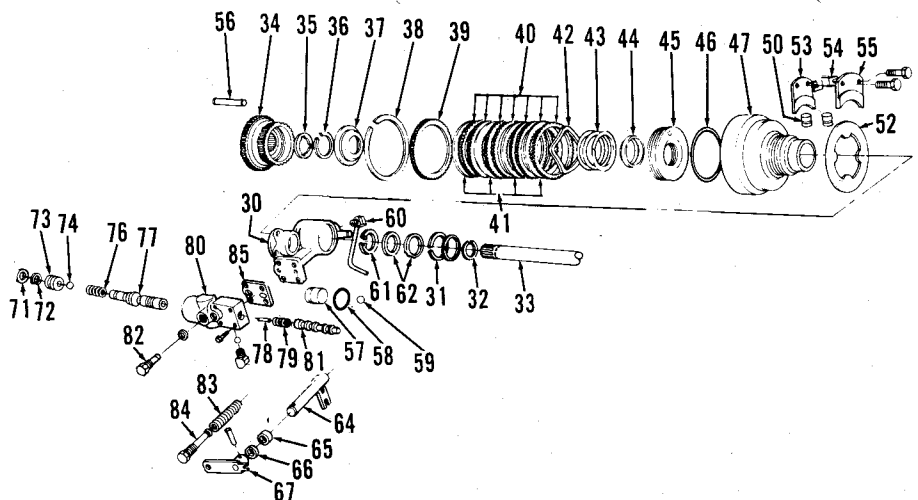
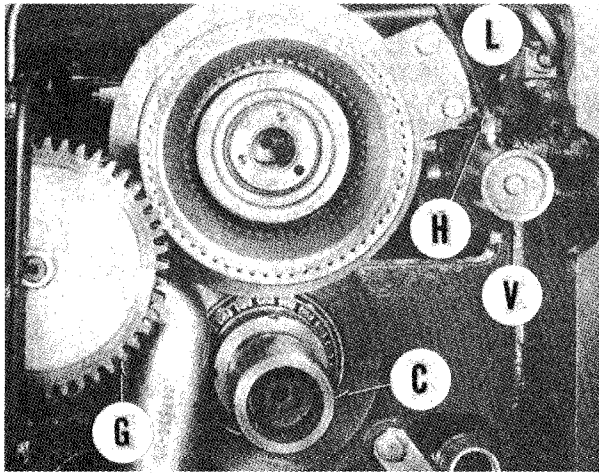
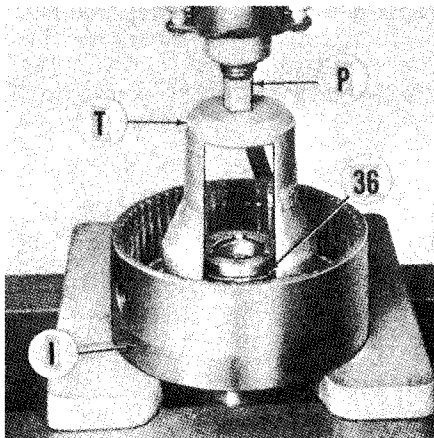
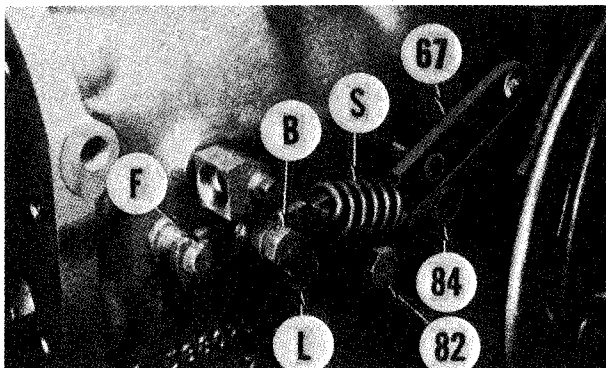

Fig. 198—Exploded view of pto clutch, valve, shaft and related components used on Models TW-10, TW-20 and TW-30. Refer to Fig. 200 for view of shift mechanism.
Fig. 198A—View of rear axle center housing on Models TW-10, TW-20 and TW-30. Refer to paragraph 220 for pto clutch removal.
Fig. 199—Using Ford tool No. 1312 to compress piston return spring (43—Fig. 197 or 198), so snap ring (36) can be removed.
Fig. 200—View of shift mechanism for TW-10, TW-20 and TW-30 models.
NOTE: Removal of hydraulic lift cover is optional. Pto clutch and valve assembly can be removed and installed with lift cover in place, however, installation is difficult because control valve spool (81—Fig. 198) and fork cannot easily be seen for alignment.
Remove hydraulic lift cover, if desired, from center housing, then remove pto drive hub (34—Fig. 198) and thrust washer (35). Disconnect pto lube line (L—Fig. 198A) from fitting on inside left wall of center housing, then disconnect high pressure line (H). Remove shoulder bolt (B—Fig. 200), over center spring (S), locating pin (82) and stop pin (84) from pto control linkage. Turn control valve lever so shift fork will be released from control valve spool (81—Fig. 198).
On TW-30 models, remove pto upper shaft and gears while supporting pto assembly, then slide pto assembly past hydraulic pump gear (G—Fig. 198A) and out center housing opening.
To reinstall pto clutch assembly, reverse removal procedure. Finger tighten locating pin (82—Fig. 200), connect pto lube line (L—Fig. 198A) and high pressure line (H), then tighten locating pin (82—Fig. 200) to a torque of 70-95 ft.-lbs. On TW-30 models, tighten pto upper shaft and gears bearing retainer to a torque of 68-92 ft.-lbs.
Fig. 197—Exploded view of clutch assembly, clutch brake mechanism, control valve assembly and actuating linkage on all models except TW-10, TW-20 and TW-30. Pin (18) is inserted through left side of rear axle center housing and pilots in hole in clutch valve housing (10) to keep the clutch assembly from rotating. Pin (23), also inserted from outer left side of center housing, acts as stop for control arm (21) and also as attaching point for the over-center spring (25). Inset shows view of valve housing from clutch side and the pto brake lever and related parts. On transmissions with Dual Power, regulator valve (51) is used in place of elbow (26). Refer to Fig. 198 for exploded view of pto assembly on Models TW-10, TW-20 and TW-30.
222. OVERHAUL PTO CLUTCH AND VALVE ASSEMBLY (TW MODELS). After removing pto clutch assembly as outlined in paragraph 220, refer to Fig. 198 and remove brake pad bolts, outer pad (55), spacers (50) and inner pad (54). Remove clutch pack from support and bearing assembly (30). Remove clutch rotor (52) then unbolt and remove valve assembly (80) from support and bearing assembly. Remove brake piston (57) with compressed air. Remove snap ring (38), pressure plate (39), clutch discs (40 & 41) and feathering spring (42) from housing (47). Using Ford tool No. 1312, compress piston return spring (43) as shown in Fig. 199 and remove snap ring (36). Use compressed air to unseat piston (45—Fig. 198). Inspect and renew any components that have excessive wear or damage.
Refer to Fig. 198 for view of control valve. Overhaul is evident after inspection of valve. If regulating valve (77—Fig. 198) is worn or damaged, it must be replaced as a complete unit.
illustrated in Fig. 199.
Remove snap ring (38) from clutch housing (47), then remove the pressure plate (39), clutch discs (40 and 41) and feathering spring (42) from housing. Remove the cast iron sealing rings (31) from rear hub of housing. Refer to Fig. 199, place housing in a press and using